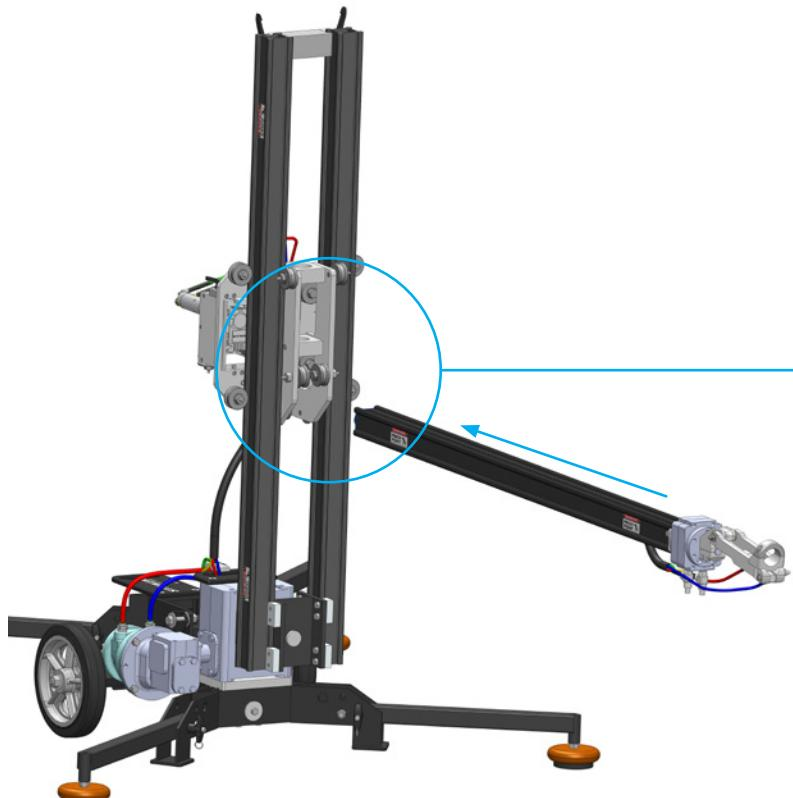

FIGURE 1
1. Install the Horizontal Rail Assembly with Wrist through the Carriage Assembly located on the Vertical Rail Assembly. (**Figure 1**) Center the Horizontal Rail between the four rollers on the Carriage Assembly (**Figure 2**) and slide in about half way.